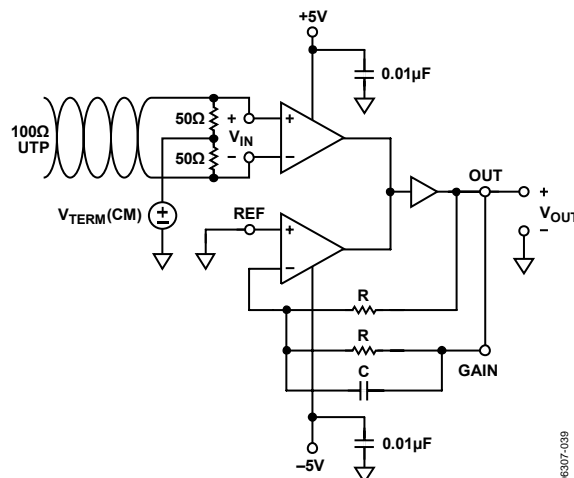

Figure 38. Common-Mode Termination with $G = 1$
Some applications require common-mode terminations for common-mode currents generated at the transmitter. In these cases, the 100 Ω termination resistor is split into two 50 Ω resistors. The required common-mode termination voltage is applied at the tap between the two resistors. In many of these applications, the common-mode tap is connected to ground ($V_{TERM} (CM) = 0$). This scheme is illustrated in Figure 38.